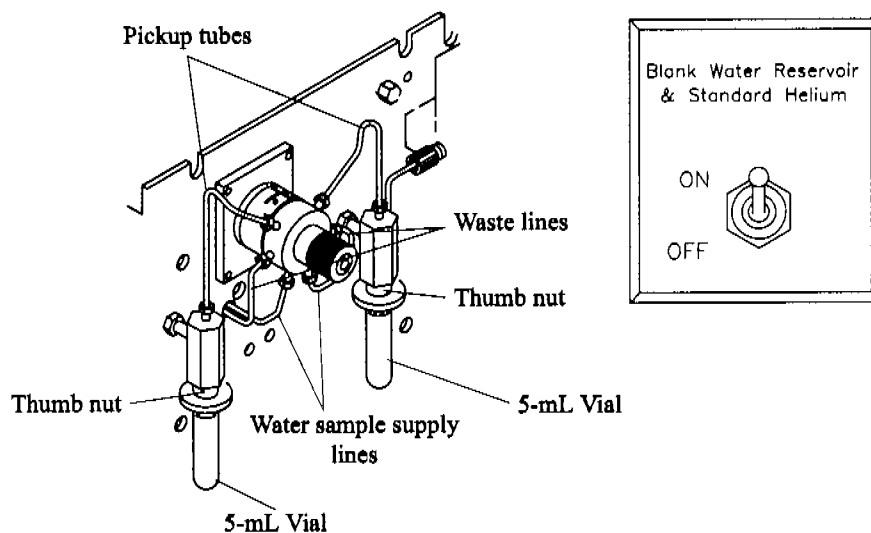

Figure 5.3. Internal standard vials and toggle switch
1. Turn the helium gas off using the toggle switch located on the instrument's right-hand side near the probe assembly (Figure 5.3).
If internal standard(s) recovery appears to be too low or is erratic, clean the lines to and from the internal standard valve and the valve rotor. Refer to Figure 5.3.